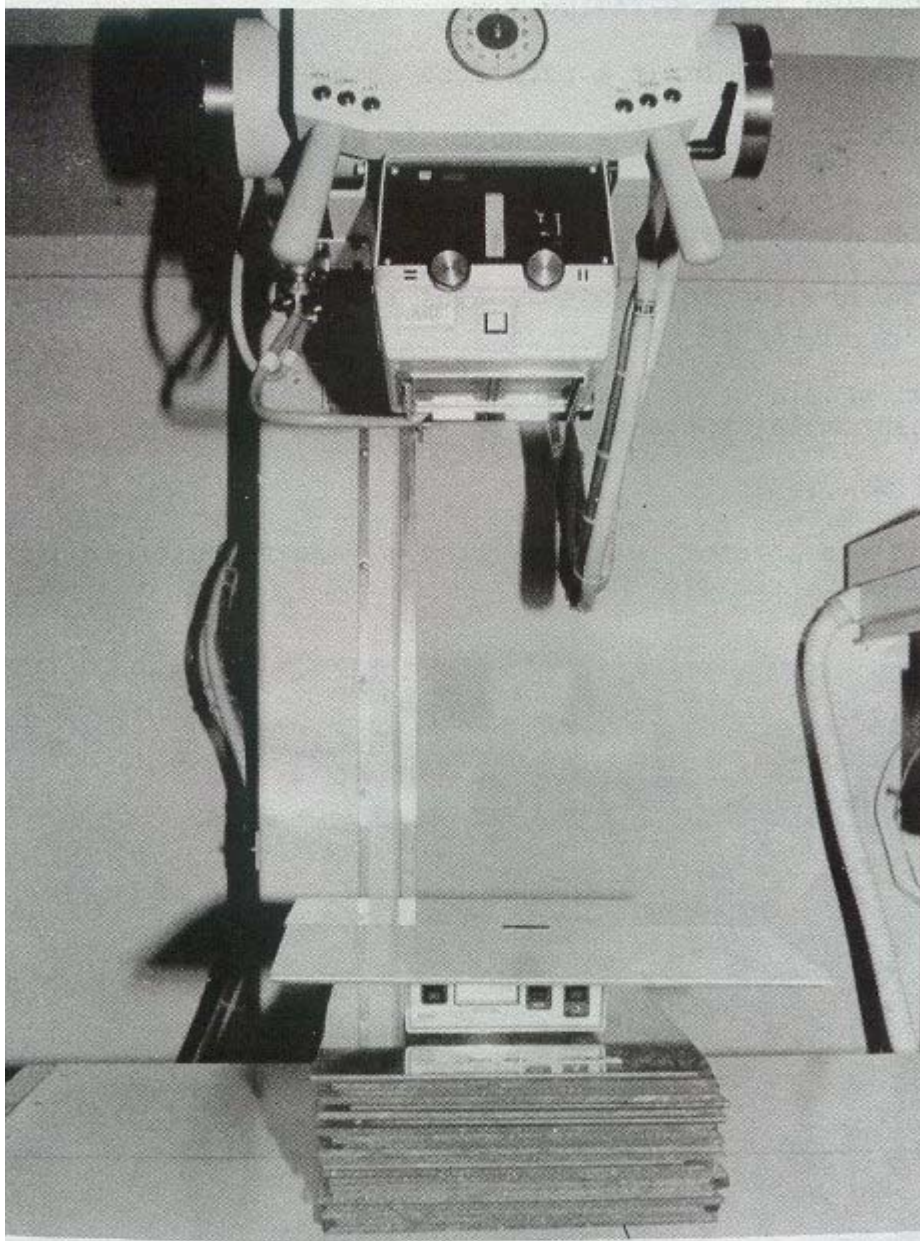

Figure 4-32. Ready to take AET exposure for backup timer test.
- b. Position the 1/8-inch II- x 14-inch lead beam stop on top of the phantom to block sensitive areas of AET. The beam will not penetrate the lead (see figure 4-32).